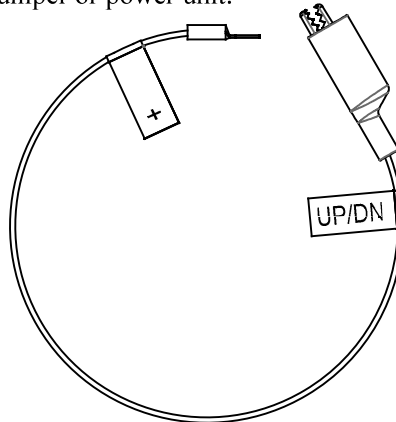

Figure 2: Liftgate Jumper
- Locate** the liftgate jumper (Figure 2) inside the power unit cover.